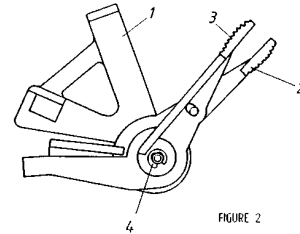

FIGURE 2
- ⇒ ● Remove the circlip (No. 4 in figure 2) of the lever shaft.